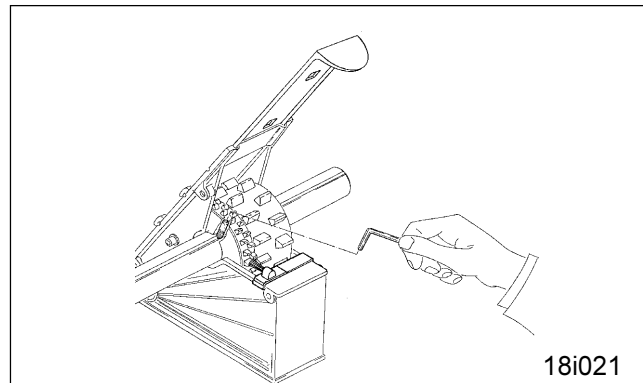

Fig. 18.28
- Fix the formerly used tramline seed metering wheels (Fig. 18.28) on the seed shaft. For this, drive the threaded pin into the fine seed metering wheel until the seed metering wheel is engaged with the metering shaft with a little play left. Never tighten threaded pins too much as this will cause a distortion of the seed metering wheels.